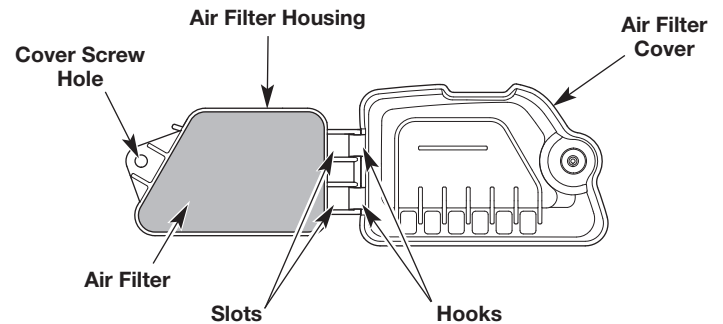

Fig. 17
2. Remove the air filter and the screen that sits behind it (Fig. 17).
6. Reinstall the air filter and the screen that sits behind it (Fig. 17).
7. Insert the hooks on the air filter housing into the slots on the air filter cover (Fig. 17).
8. Swing the air filter cover to the left and align the cover screw with the cover screw hole (Fig. 17). Tighten the cover screw to secure the air filter cover.